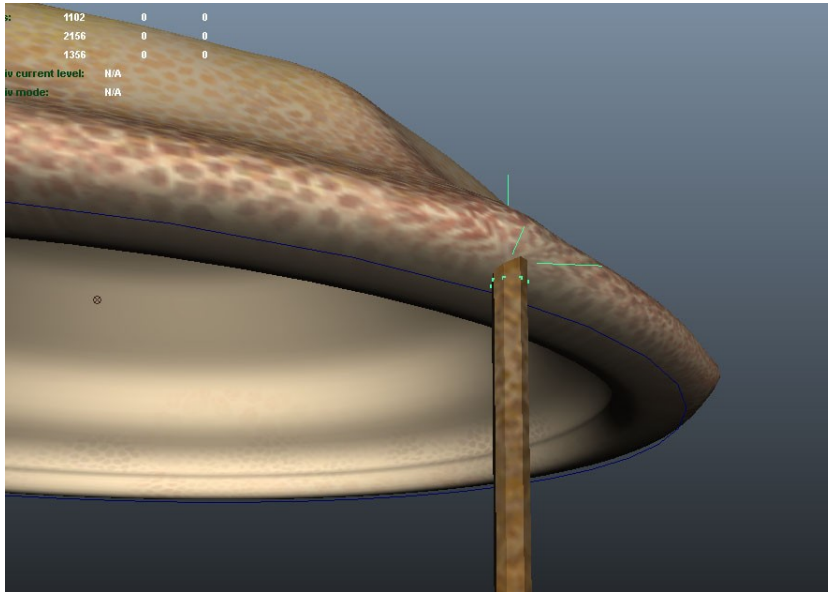

Fig. 35
10. Now move *dynamicConstraint1* in its local XYZ-axis until its positioned at the edge of the Margin, where a tentacle would come out (Fig. 35). The rest of the scene elements can be grouped together separately.